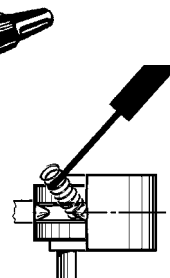

Fig. 3.
3. Place glued end over the knuckle retaining post and then compress spring so that it may slip over the opposing shank retaining post. See **Fig. 3**.